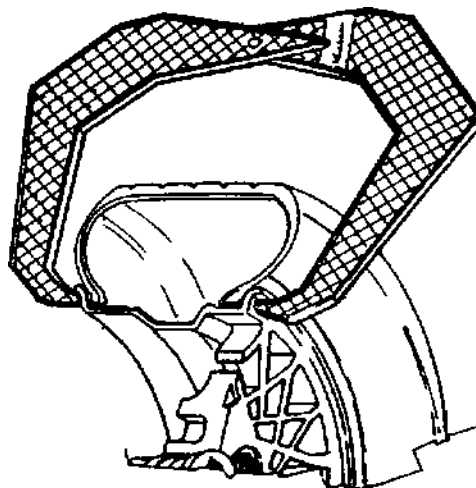

Figure 23
**4.5.2.2 Measure Rim Width Manually** using rim width calipers. Measure wheel where corrective clip-on weight would be applied, Figure 23. Enter the measured width by pressing the **Parameter** button followed by the **UP** or **Down** arrow button until the desired value appears in the right display.